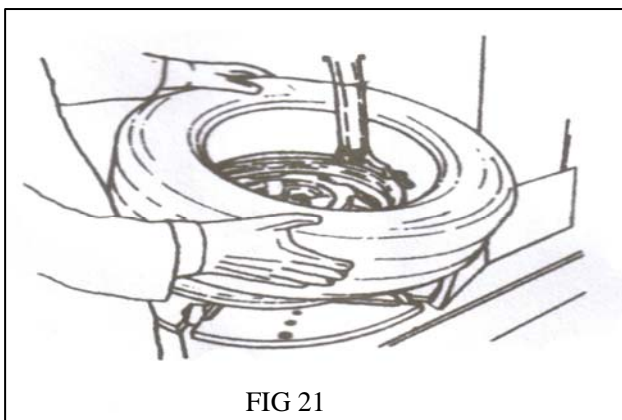

FIG 21
4.2.2 Spread the lubrication liquid or soap liquid around the lip. Tilt the tire against the rim and keep the front end upwards. Press down the hexagonal shaft to move the demount arm to contact with the rim and lock. The left lip above the tail of the demount tool and the right lip will be positioned under the front end of the demount tool (FIG 21), Clockwise rotate the turntable to guide the bottom lip into the tire detaching slot.